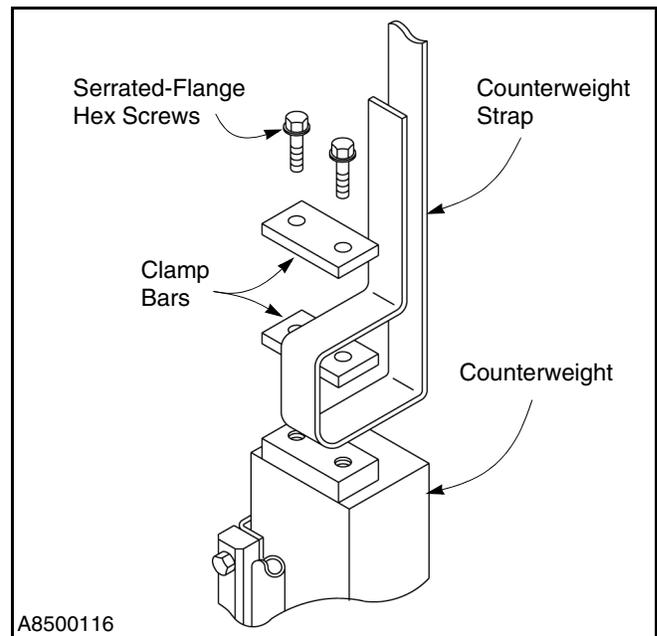

Figure 20
- With the straps hanging straight, attach them to the counterweights using two 1/2-13 x 1-in. serrated-flange hex screws and clamp bars provided in the small parts carton. Route the straps through the clamp bars as shown in Figure 20.